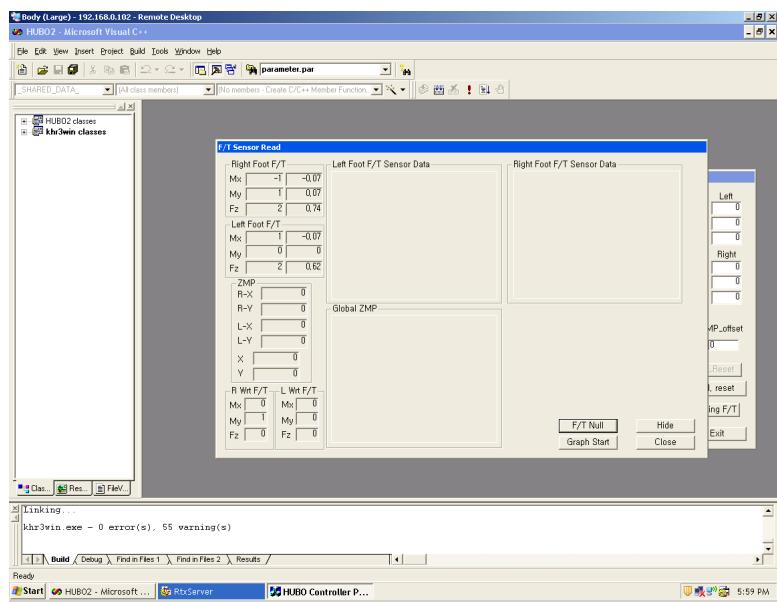

Figure 21: *FT Sensor Read* dialog box
The new dialog box that opens is called *FT Sensor Read* dialog box, see Figure 21
5.34 Click *F/T Null* in the *FT Sensor Read* dialog box, see Figure 21
5.35 Click *Hide* in the *FT Sensor Read* dialog box, see Figure 21